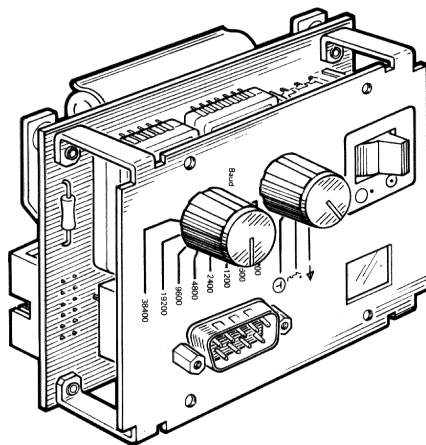

Figure 6-29 CPU Patch Panel Insert
2. Remove the rear bezel and the console terminal cable from the CPU patch panel insert. (Figure 6-29)